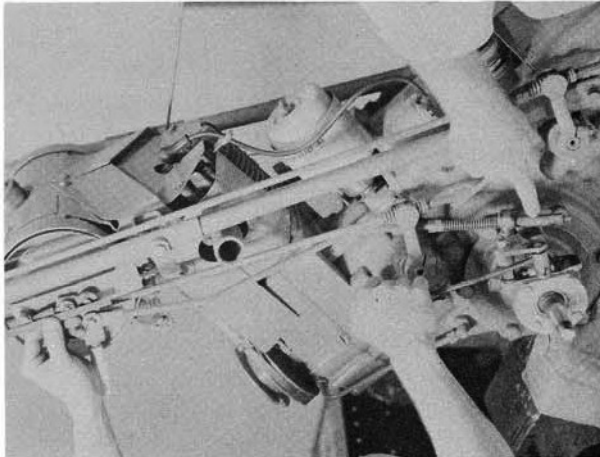

Figure 54
34. Adjust for high range as in Figure 54. With the Shifting Handle in the High range position, retain the Shifter Pin in the Low